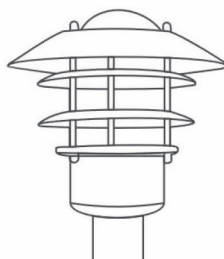

Fig. 5
7. Attach the glass shade and screw on the top of the light fitting (see fig. 5).